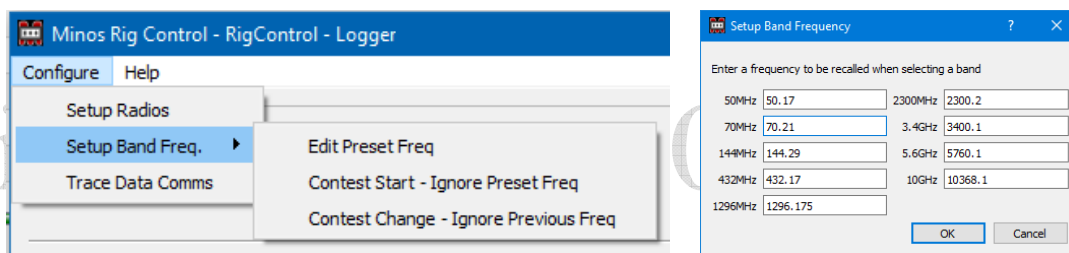
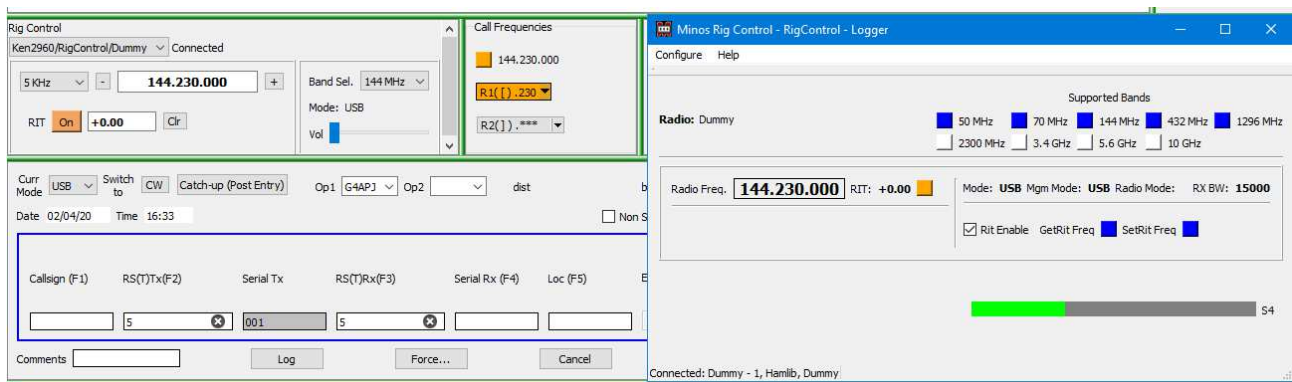
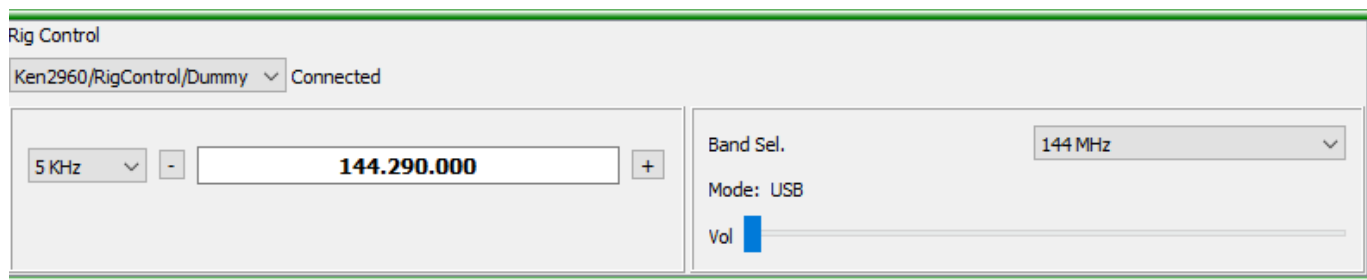

Figure 75 – Setup Band Frequency
Figure 77 – RigControl connected to Logger
Figure 79 – RigControl panel within Logger
The “**Radio Name**” field is used within a contest to select (or display) which rig is currently being controlled (e.g. in Figure 77). Once defined, it may be changed using “**Edit Radio Name**” or removed (provided it is not currently active within the Logger) using the “**Remove Radio**” button.
“**Configure/Setup Band Freq./Edit Preset Freq.**” (Figure 75 left) provides three options:
- ‘**Edit Preset Freq**’: displays the table of ‘base frequencies’ (Figure 75 right). These define the frequency the rig goes to when a contest is opened or when a “**Quick Sel**” band change is made from the Rigcontrol panel of the Logger (Figure 77). The default frequencies are chosen to avoid such things as calling channels. This option allows you to change the start frequency to your favourite start frequency on a band⁷². Minos must be restarted for any changes to take effect.
Once configured to operate in conjunction with the Logger a contest may utilise the rig selected within the application, and the RigControl panel becomes visible in Logger (see Figure 77). As can be seen, because the application is connected to the Logger, it shows ‘Logger’ in the title, together with the name assigned to the instance of the app being used they are using (RigControl, by default).
Within the RigControl panel (see Figure 79) on the top left is the name of the selected radio and its status which should normally be ‘**Connected**’ for correct operation⁷⁵.
If the selected radio supports RIT (through CAT) it can be enabled through the RigControl panel (see Figure 79) and it will then become visible in the RigControl panel within Logger (see Figure 13). **Turning it on (Figure 77)** then allows incremental tuning using the mouse wheel in the same manner as for the main frequency. A specific RIT frequency can also be entered, although that is unlikely to be very useful. There are a number of shortcut keystrokes available - listed in Figure 149.